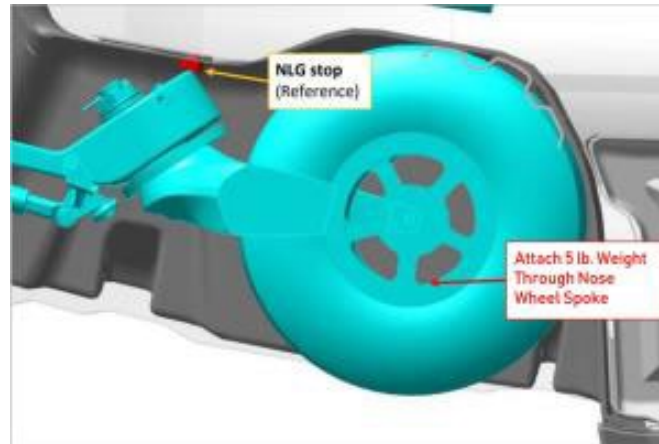

Figure 3. Rigging with gear up
- e. When in the UP position a single sheet of paper should slide with minimal drag between the NLG strut and stop **(Figure 3)**.